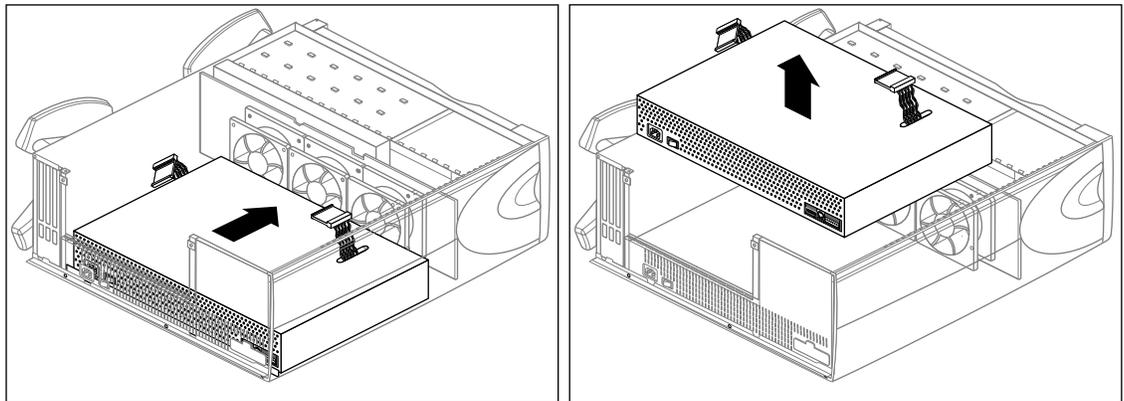

Figure 5-15 Removing the Origin200 Server Power Supply
5. Remove the power supply, as shown in Figure 5-15.